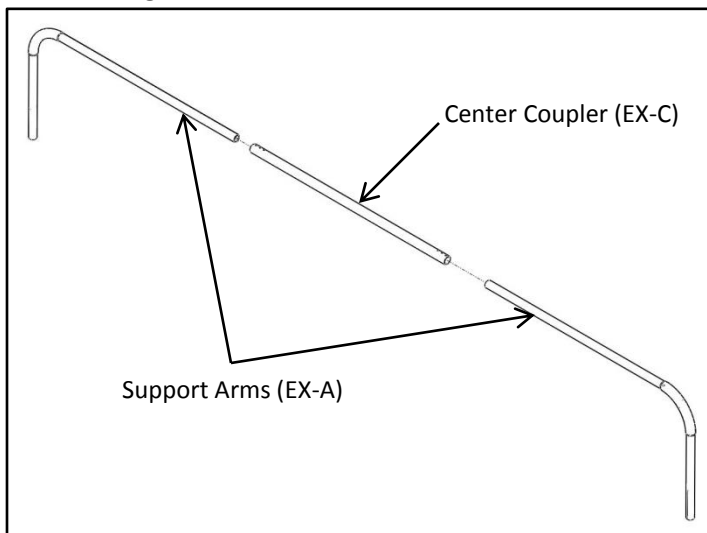

Figure 6A
6. Insert the long arms of the Support Arms (EX-A) into the ends of the Center Coupler (EX-C) as shown in Fig 6A.